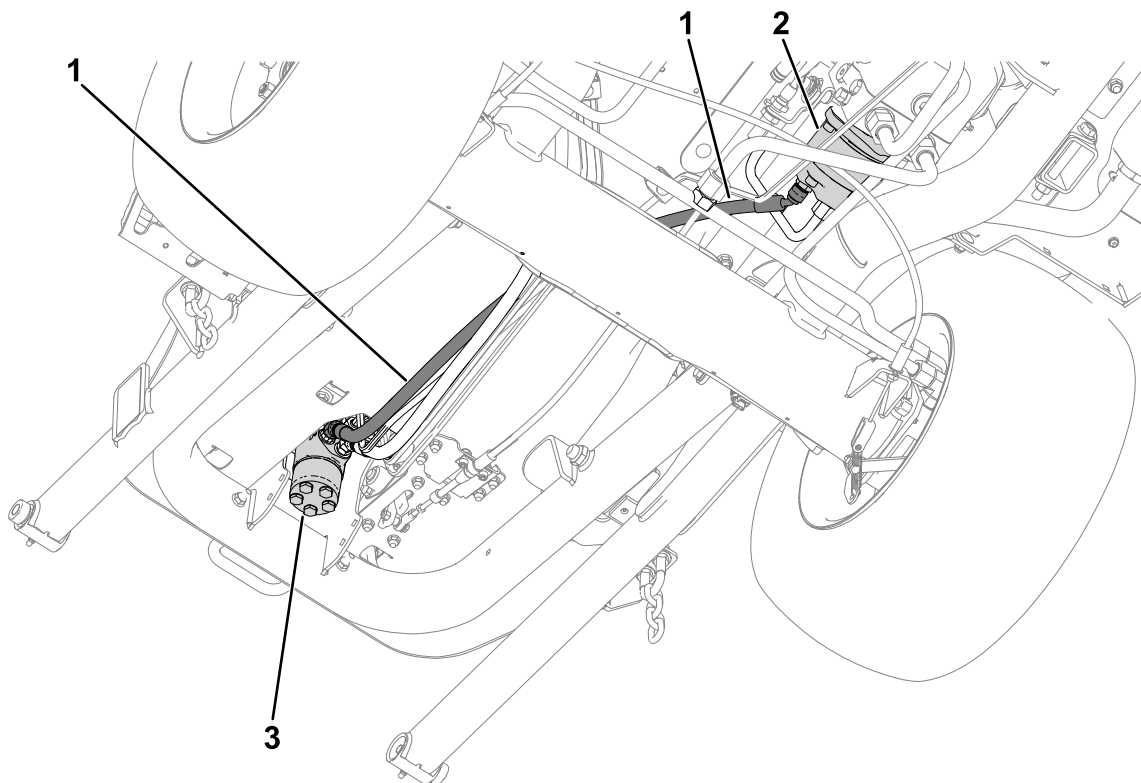

Figure 4
5. Ensure that the hydraulic hose is routed as shown in Figure 4.